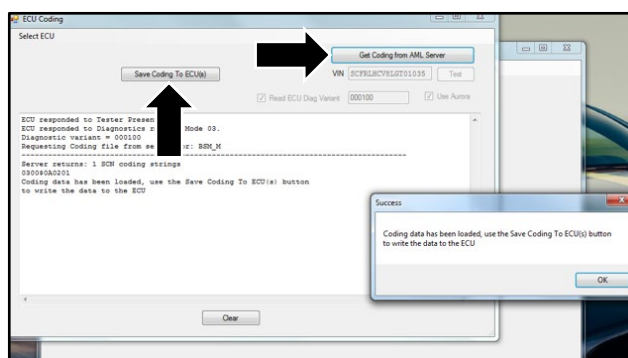

Figure 5
9. If the software has been updated, the variant coding must be updated. Click the "Get Coding from AML Server" then click the "Save Coding to ECU(s)" button (refer to Figure 5).